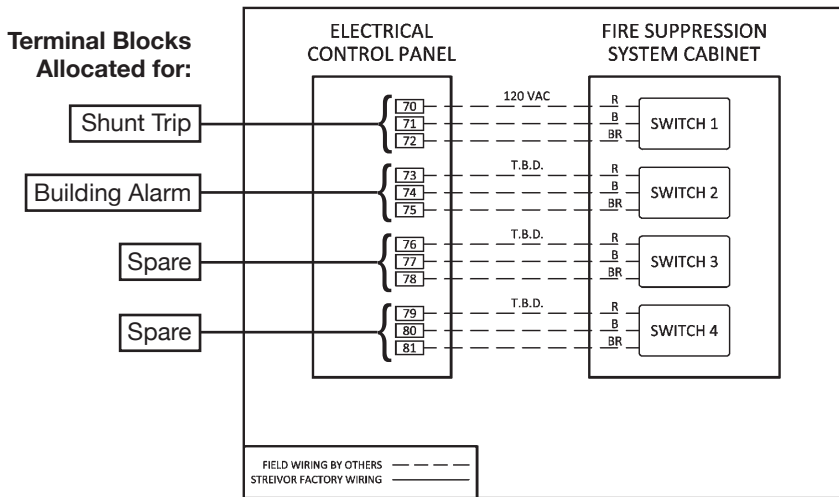
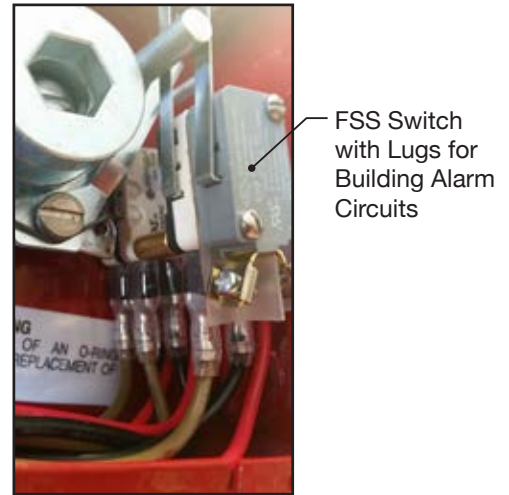

FIGURE 9A:
FIGURE 9B:
- Connect the terminal blocks in the control panel to the FSS Switch(es) (Figure 9A). The building alarm circuit must be connected to the switch with lugs (Figure 9B).